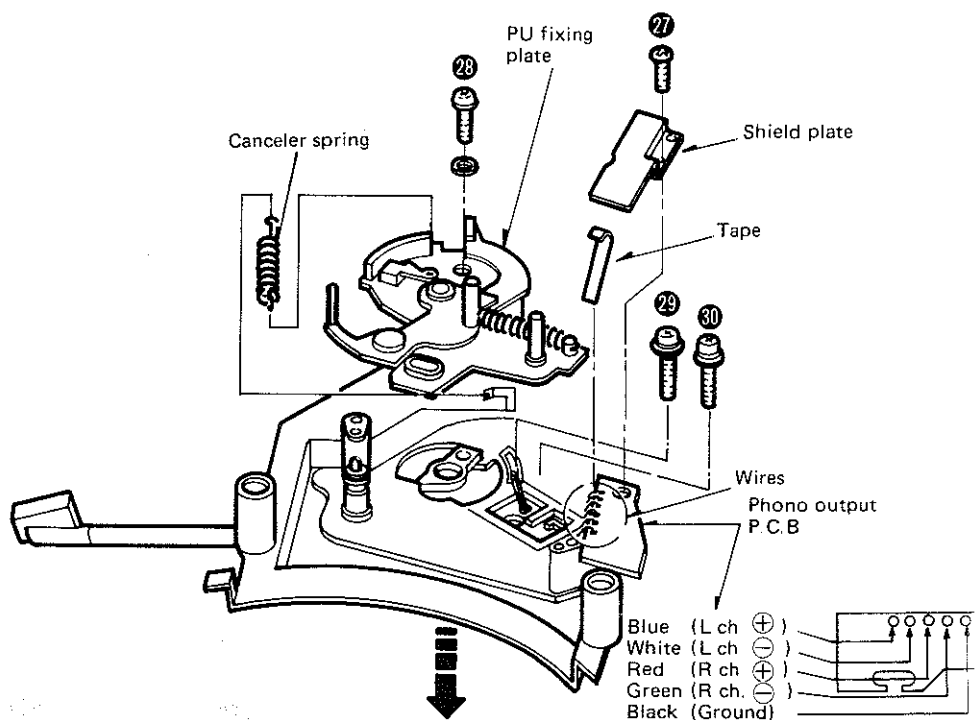

Fig. 8
4. Remove the shield plate setscrew (Fig. 8 : ㉗) and remove the shield plate.
6. Remove the PU fixing plate setscrew (Fig. 8 : ㉘) and canceler spring.
7. Remove the 2 tonearm setscrews (Fig. 8 : ㉙, ㉚), then the tonearm can be removed in the direction of the arrow.